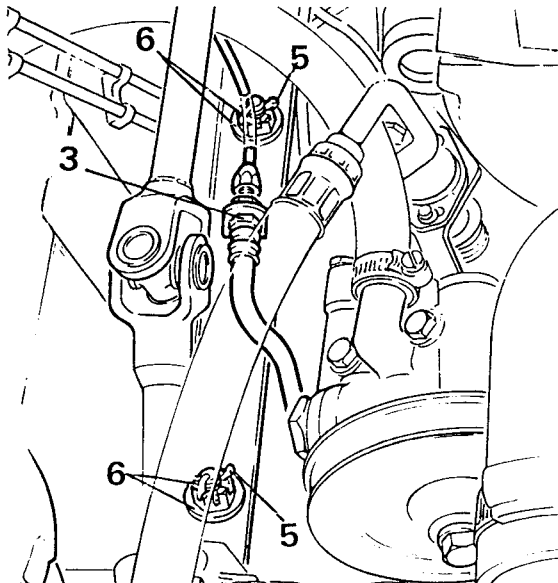

Figure 2
3. Position a suitable container under the chassis. From within the engine compartment disconnect the brake hoses from the chassis. See figure 2. Seal pipe ends to prevent the ingress of dirt into the brake system.